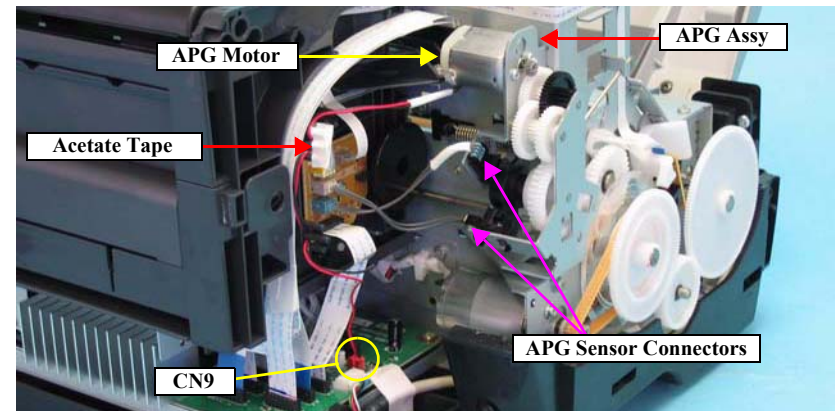

Figure 4-54. Disconnecting the Connector Cables
- Refer to Figure 4-54, and route the APG Connector Cables correctly.